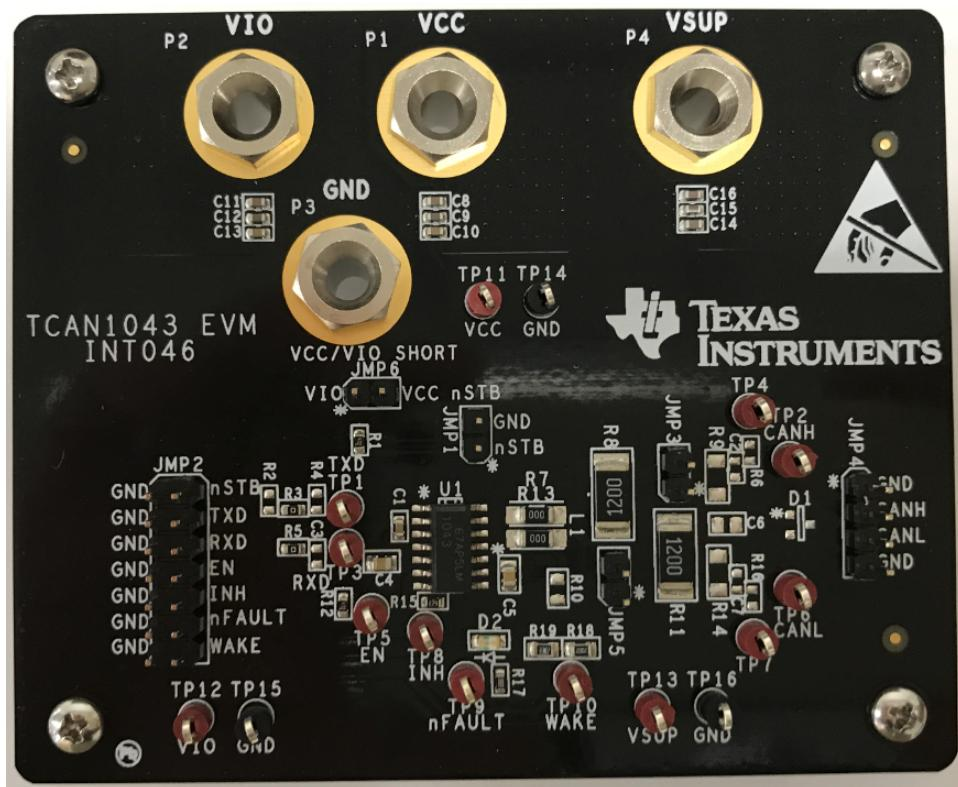

Figure 1. TCAN1043HG-Q1 Evaluation Module (EVM)
The TCAN1043HG-Q1 EVM has simple connections to all necessary pins of the CAN transceiver device, and jumpers where necessary to provide flexibility for device pin and CAN bus configuration. There are test points (loops) for all main points where probing is necessary for evaluation such as GND, V_{CC} , TXD, RXD, CANH, CANL, EN, nFAULT, and WAKE. The EVM supports many options for CAN bus configuration. It is pre-configured with two 120- Ω resistors connected on the bus via jumpers: a single resistor is used with the EVM as a terminated line end (CAN is defined for 120- Ω impedance twisted pair cable) or both resistors in parallel for electrical measurements representing the 60- Ω load the transceiver detects in a properly-terminated network (that is, 120- Ω termination resistors at both ends of the cable). If the application requires "split" termination, TVS diodes for protection, or a Common Mode (CM) Choke, the EVM has footprints available for this via customer installation of the desired components. Figure 1 shows the EVM board image.